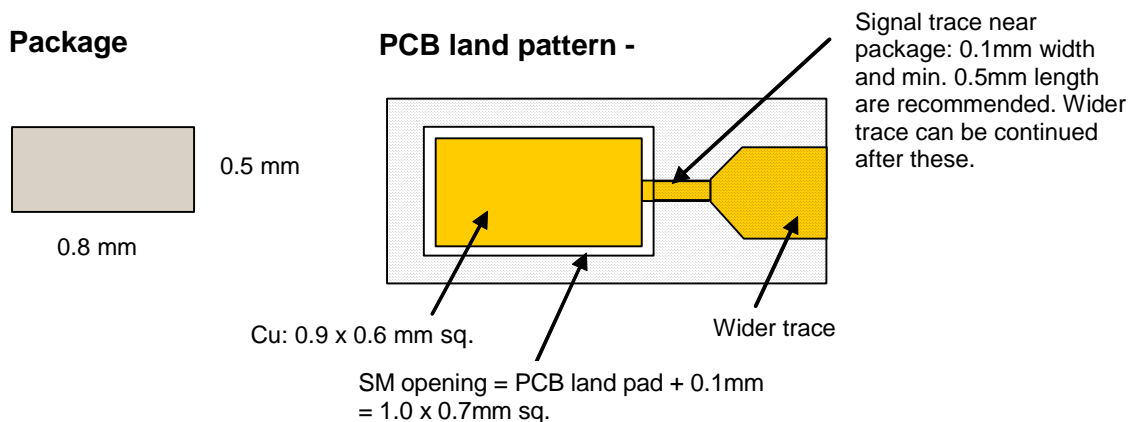
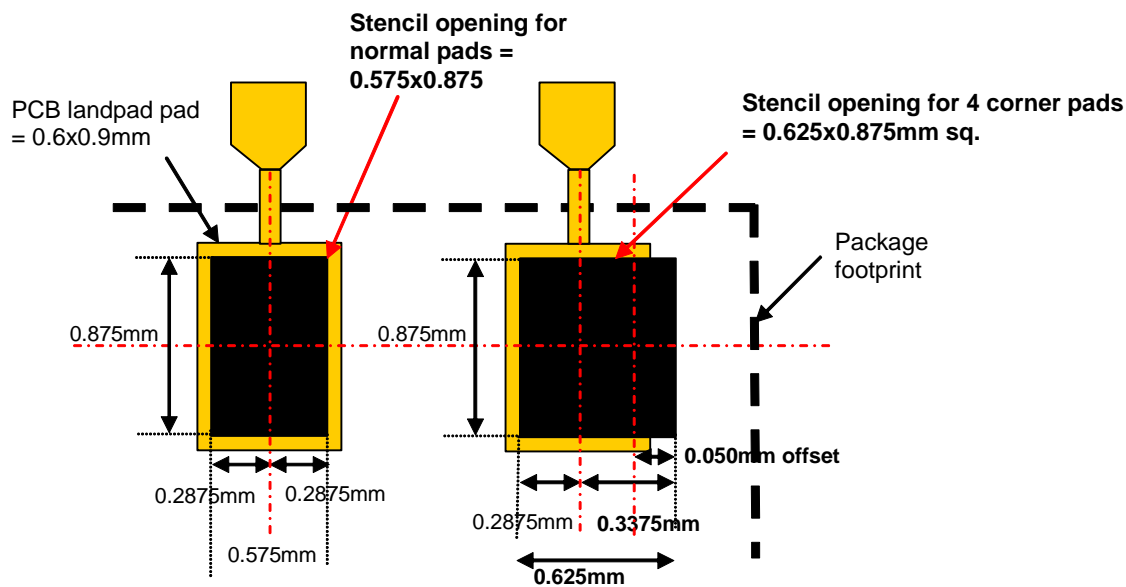

Figure 5. Recommended PCB Land Pad, Solder Mask, and Signal Trace Near Package Design
Figure 7. Stencil Design Guidelines (detailed dimensions for corner pads)
1. The PCB land should be designed with Non Solder Mask Defined (NSMD) as shown in Figure 5.
3. PCB land pad is 0.9mm x 0.6mm which is the size of the package pad plus 0.1mm as shown below in Figure 5.
4. The solder mask opening is equal to the size of the PCB land pad plus an extra 0.1mm as shown in Figure 5.
5. The stencil aperture size is equal to the PCB land pad - 0.025mm. Also note that for the 4 corner pads the aperture size must be larger for solder balancing as shown in Figure 6 and Figure 7. A 6mil thick stencil is recommended.
7. Signal traces connected to pads should be as symmetric as possible. Put dummy traces on N/C pads in order to have same length of exposed trace for all pads. Signal traces with 0.1mm width and min. 0.5mm length for all PCB land pads near the package are recommended as shown in Figure 5, Figure 6, and Figure 7. Wider trace can be continued after the 0.5mm zone.